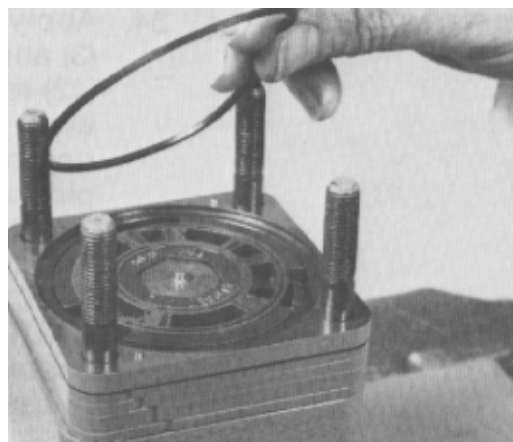

Figure 120
38. Apply clean multi-purpose grease to the valve ring seal ring. Install the seal ring in the valve ring (Fig. 120).